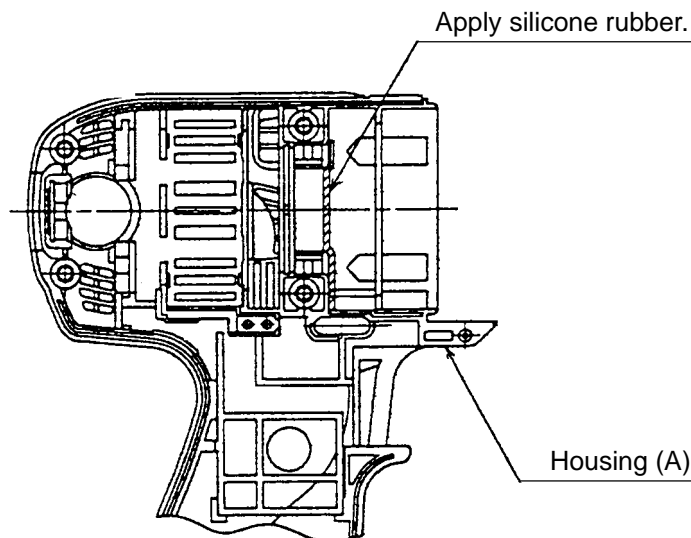

Fig. 7
Tightening torque is affected by the voltage output of the battery. For example, the relationship between tightening torque and the number of M16 x 55 mm (5/8" x 2-5/32") F10T bolts tightened is shown in Fig. 7 below. As can be seen in the graph, tightening torque decreases as the number of bolts tightened increases. This phenomenon is caused by the decline in voltage output of the battery due to the increasing number of bolts tightened. In particular, the tightening torque decreases rapidly just before the battery is fully discharged (range "a" in the graph). As this phenomenon is an inherent drawback in any cordless impact driver, salespersons are requested to ensure that the customer is fully aware of and understands this characteristic.
- (c) Before mounting the parts to housing (A), apply silicone rubber (ThreeBond 1211) to the area illustrated in Fig. 7